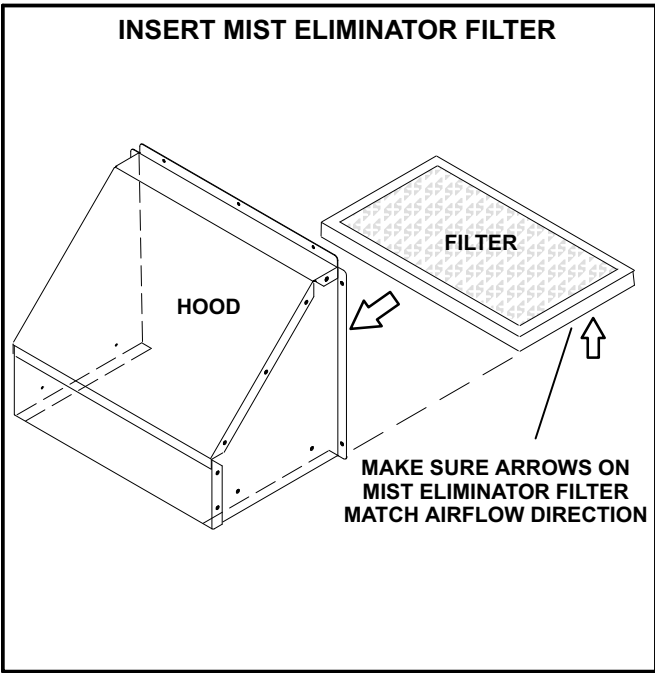

FIGURE 11
- 2- Install mist eliminator filter as shown in figure 11.